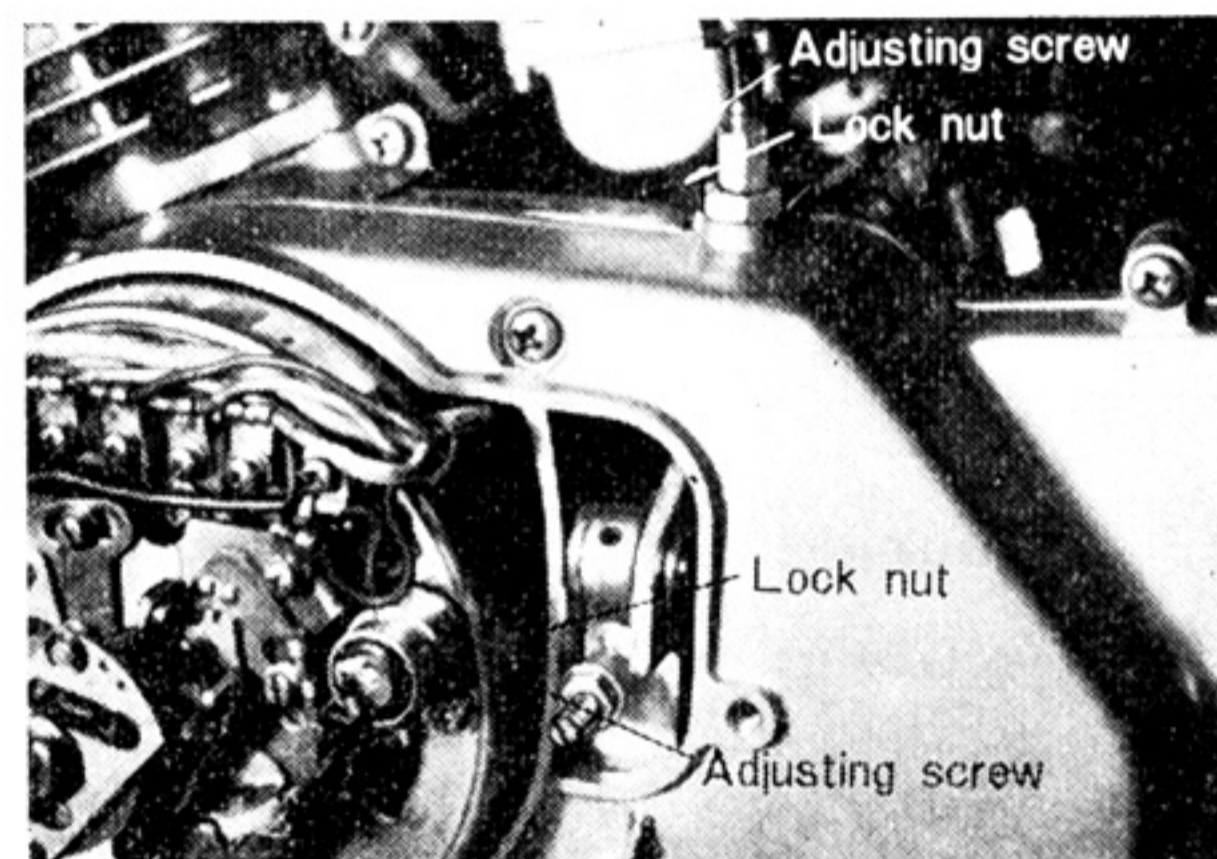

Fig. 3-8-14
(1) Adjusting the Adjusting Screw. (Fig. 3-8-14)
- b. Loosen the adjusting screw lock nut as shown in Fig. 3-8-14.
(This adjustment is made on the left upper part of the crankcase cover.) Refer to Fig. 3-8-14.